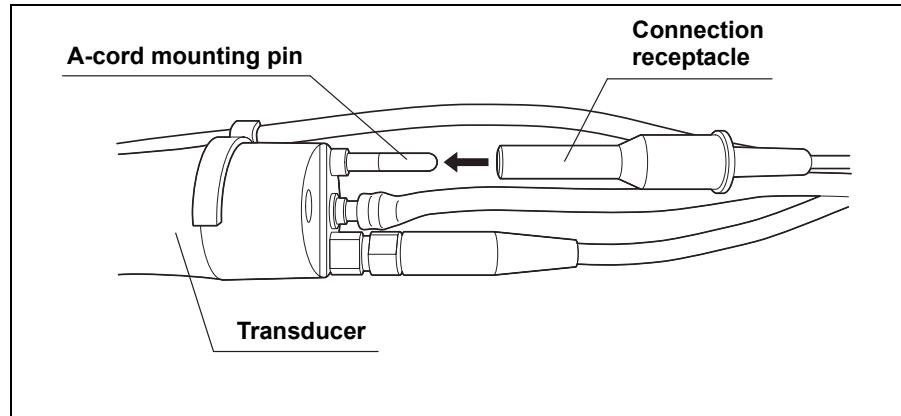

Figure 4.22
3. Attach the A-cord mounting pin of the transducer into the connection receptacle of the GE hand switch (see Figure 4.22).